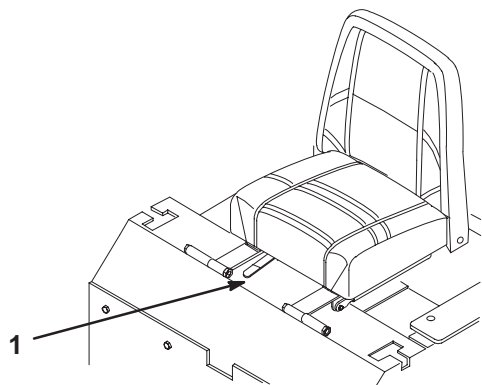

Figure 24
1. To adjust, move the lever sideways to unlock seat (Fig. 24).